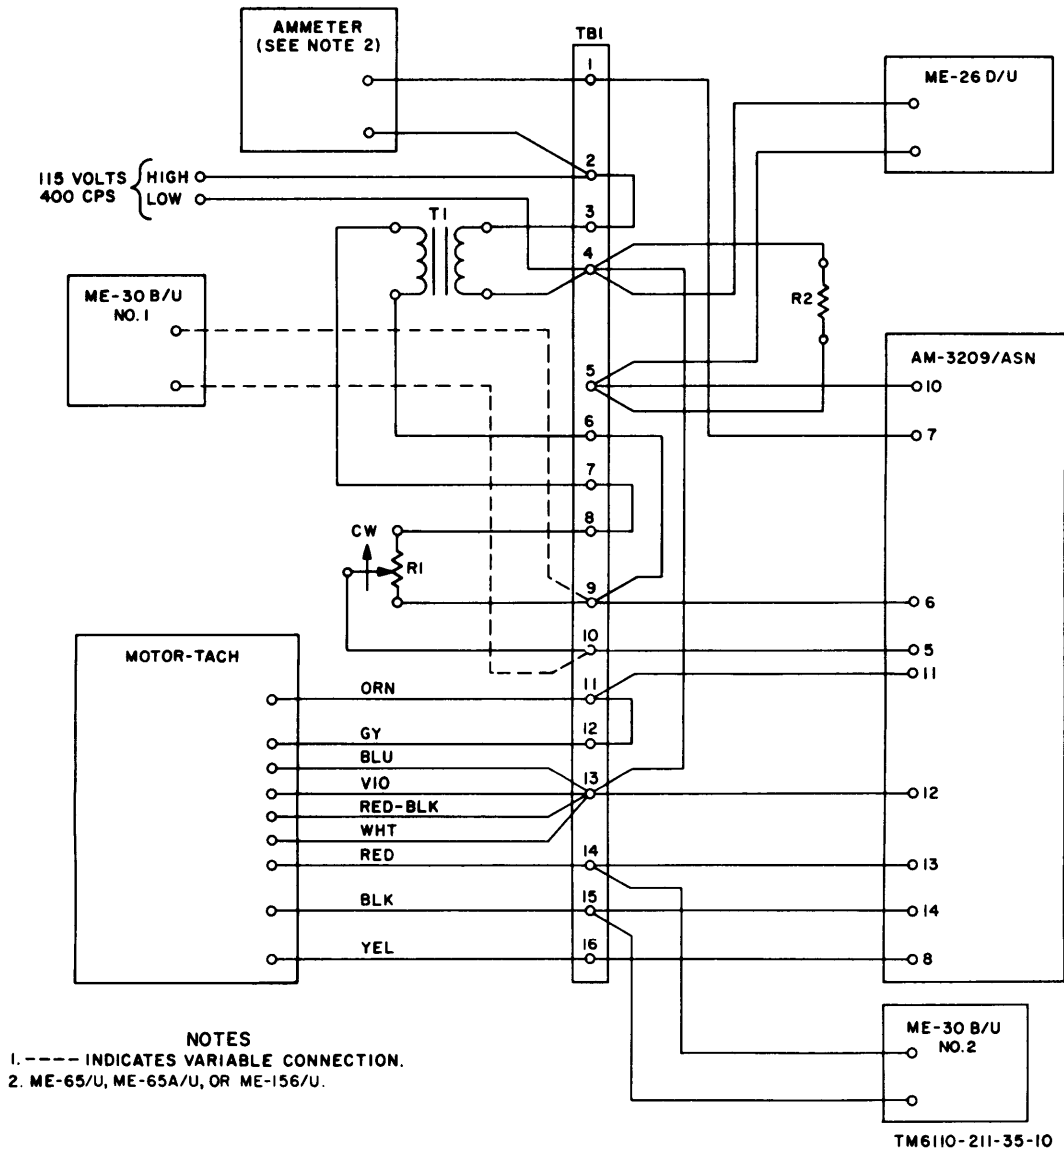

Figure 4-2. AM-3209/ASN test setup.
*a. Test Setup.* Connect the AM-3209/ASN to the test setup as shown in figure 4-2. During the following tests, the ammeter shall be monitored to insure that the line current does not exceed 210 ma.